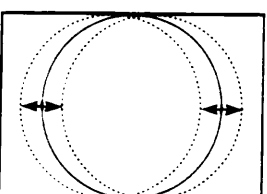

Fig 3.
- d: Adjust the horizontal amplitude to obtain 9% overscan (fig. 3).